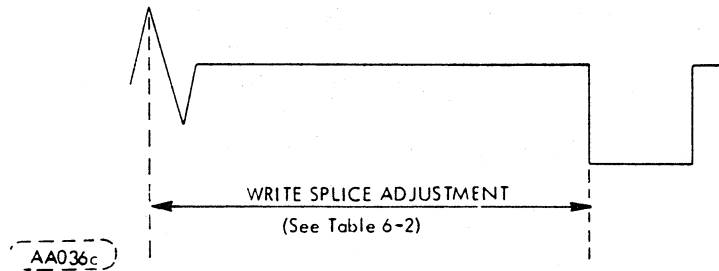

FIGURE 6-7. WRITE SPLICE BIT TO INDEX TIMING
- e. Adjust the time from write splice bit to the leading edge of the index pulse until it measures per Table 6-2. (Refer to Figure 6-7 to adjust the write splice to index time, loosen the Allen head screw holding the phototransistor located on bottom of chassis toward the front of the unit.) Using the adjustment handle protruding through the casting, move the phototransistor until the specification is met. Tighten the Allen screw while observing the scope signal. Verify that the adjustment did not change. If the adjustment cannot be achieved, it may be necessary to adjust the LED sensor located on the top plate assembly.